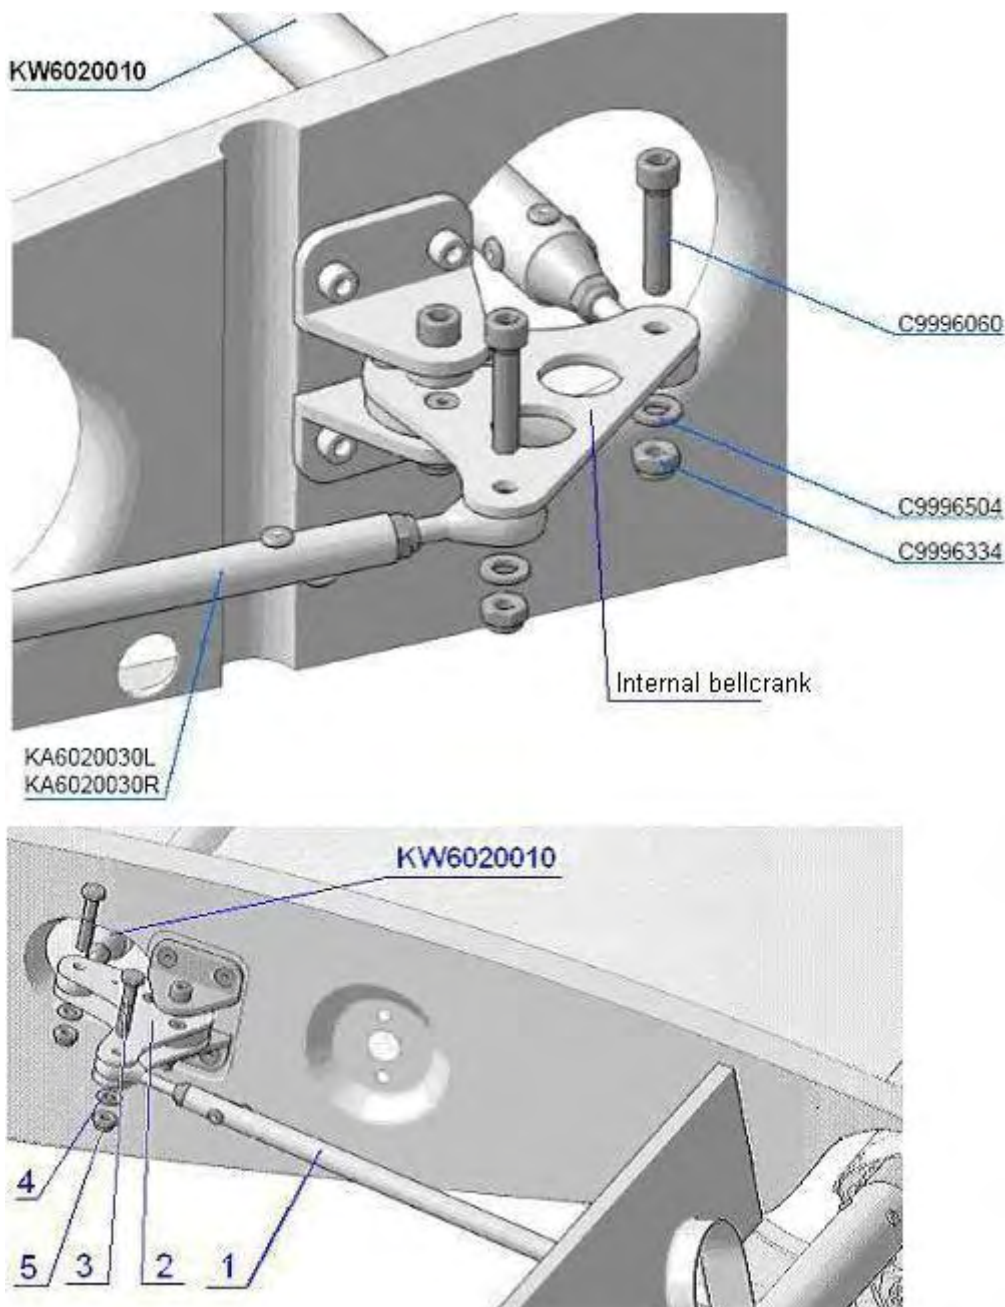

Fig. 7
Set the external bellcrank (2) KA6020040 so that the line between the rod (1) attachment hole and bellcrank axle of rotation is perpendicular to the root rib (Fig. 7). At the same time the internal bellcrank must be set so that the line between the rod KW6020010 mounting hole and bellcrank axle of rotation is parallel to the rib of the wing.
3. Match the holes in the rod tip (C9997006A, Rod end bearing, ext. thread GA6) with the hole in the bellcrank (2) KA6020040 (Fig. 7). Note that when the external bellcrank (2) KA6020040 is set so that the line between the rod (1) attachment hole and bellcrank axle of rotation is perpendicular to the root rib (Fig. 7), the internal bellcrank must be set so that the line between the rod KW6020010 mounting hole and bellcrank axle of rotation is parallel to the rib of the wing. Otherwise disconnect KA6020050R(L) and change its length per Paragraph 4.3.1.3 B.
4. Connect the rod in the fuselage root rib box (1) (KA6020050L for the left wing, KA6020050R for the right wing) with bellcrank (2) (KA6020040L for the left wing, KA6020040R for the right wing) by the bolt (3) KA6020021. Engage the nut (5) (C9996334, Self-locking nut DIN 985-M6, regular) onto the bolt (3), but do not tighten. Fig. 7.
5. Check "zero" position of the ailerons. If the ailerons are not aligned with the flaps, disconnect the rod (KA6020030R for the right wing, KA6020030L for the left wing) from the internal bellcrank KA2010130. (Fig. 7) and reduce length of the rod KA6020030R(L) in case the aileron trailing edge is lower than the flap trailing edge (refer to Paragraph 4.3.1.6 B). Otherwise increase length of the rod.
6. Connect the aileron rod KA6020030L (KA6020030R) with the internal bellcrank. Engage, but do not tighten the nut (5) (C9996334, Self-locking nut DIN 985-M6, regular) on the bolt (3) (C9996061, Bolt DIN 912 M6x40-8.8). Fig. 7.
7. Check aileron "zero" position. If the ailerons are not aligned with the flaps repeat items 5 through 6.